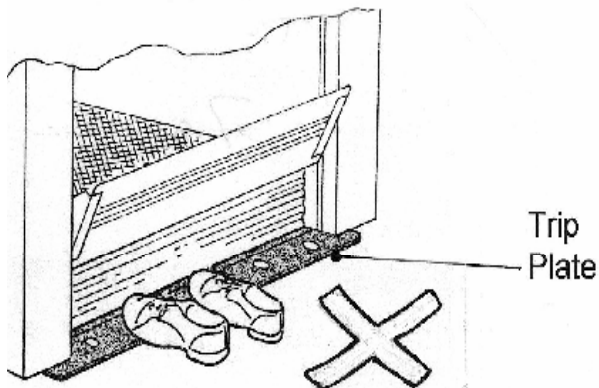

Fig. 5
- **OVERLOAD** Do not exceed the stated loading levels shown in item 14, Specification.
- **TRIP PLATE** Should the trip plate become obstructed the lift will immediately stop (see fig. 5). The obstruction should first be removed before upward or down-ward motion is possible.